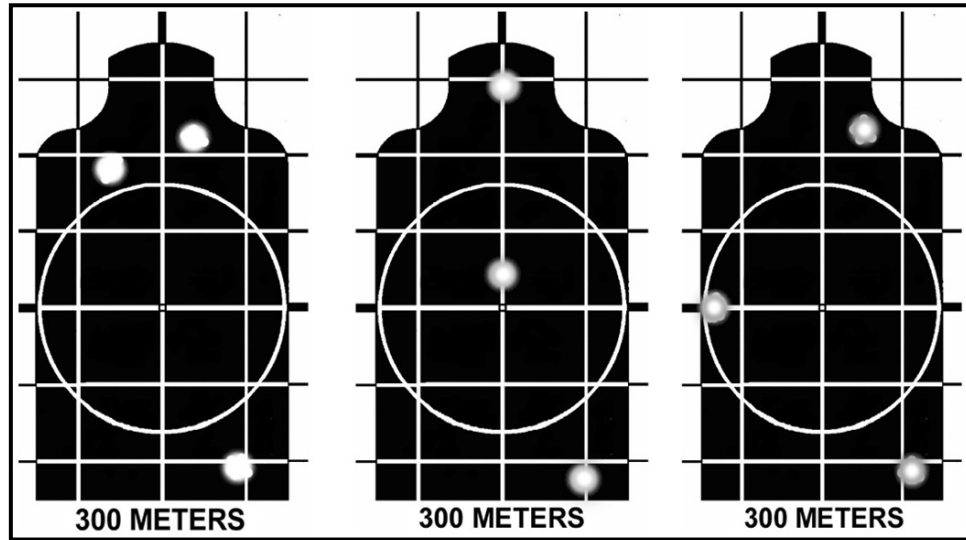

Figure 5-9. Shot groups indicate major shooting error.
(5) *6-Centimeter or Larger Shot Groups*. The targets shown in Figure 5-9 represent unacceptable firing performance. A better firing performance should be expected, and the instructor-trainer should ensure the soldier is properly applying the four marksmanship fundamentals. He should explain that group size is not due to weapon or ammunition performance. The placement of shots in these groups (more than 6 centimeters apart on the target) reflects major shooting error. Any of these three shot groups could have been a change in position, sight picture, breathing; or trigger squeeze, or the firer may be anticipating the shot. Firers with these shot groups should receive extensive dry-fire training to help correct firing problems. (See Appendix A for more information.)